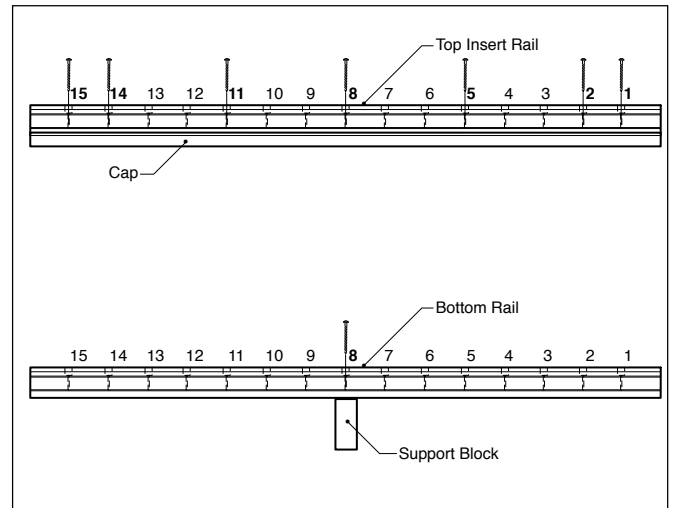
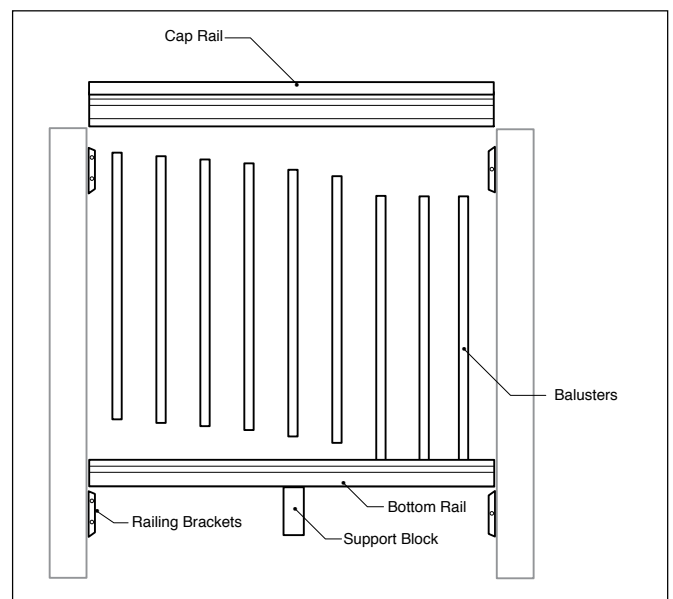

Fig. 1
Fig. 2
Step 2: Place the moulded cap rail upside down on a flat surface. Next, place one of the 2x4 rails into the moulded cap rail channel so that the holes are facing up. Starting from either end, fasten the top 2x4 to the cap rail using the (7) 3" screws through holes 1, 2, 5, 8, 11, 14, and 15. If rails are trimmed, predrill any additional holes with a 1/8" drill bit and insert the screw into the next nearest hole. **(Fig. 1)**
Step 3: Attach the support block on the bottom of the bottom 2x4 rail using the 4" screw. The support block installs under hole 8. If your rail was not trimmed evenly from both sides, find the closest hole to the center to secure the support block. If that hole has not been predrilled, predrill with a 1/8" drill bit. **(Fig. 1)**
Step 4: Attach the (4) 2x4 DeckoRail® railing brackets to the posts according to the included instructions.
Step 5: Attach the bottom 2x4 rail, with the holes facing up, using the 2x4 DeckoRail railing brackets. Insert the balusters into the predrilled holes. **(Fig. 2)**
Step 6: Attach the cap rail by aligning the holes to the baluster at one end of the rail and working your way to the opposite end, ensuring that all of the balusters are secured between the two rails. **(Fig. 2)**